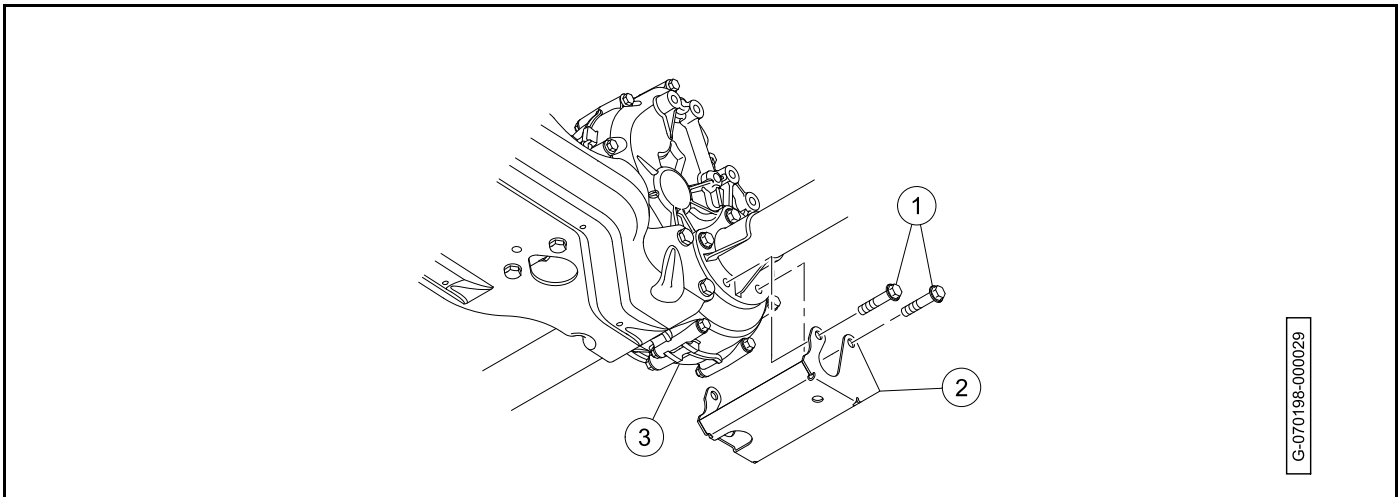

Figure 24-5 Differential Guard Removal
2. Remove the four bolts (1) securing the differential guard (2) to the transaxle (3) (Figure 24-5, Page 24-6).